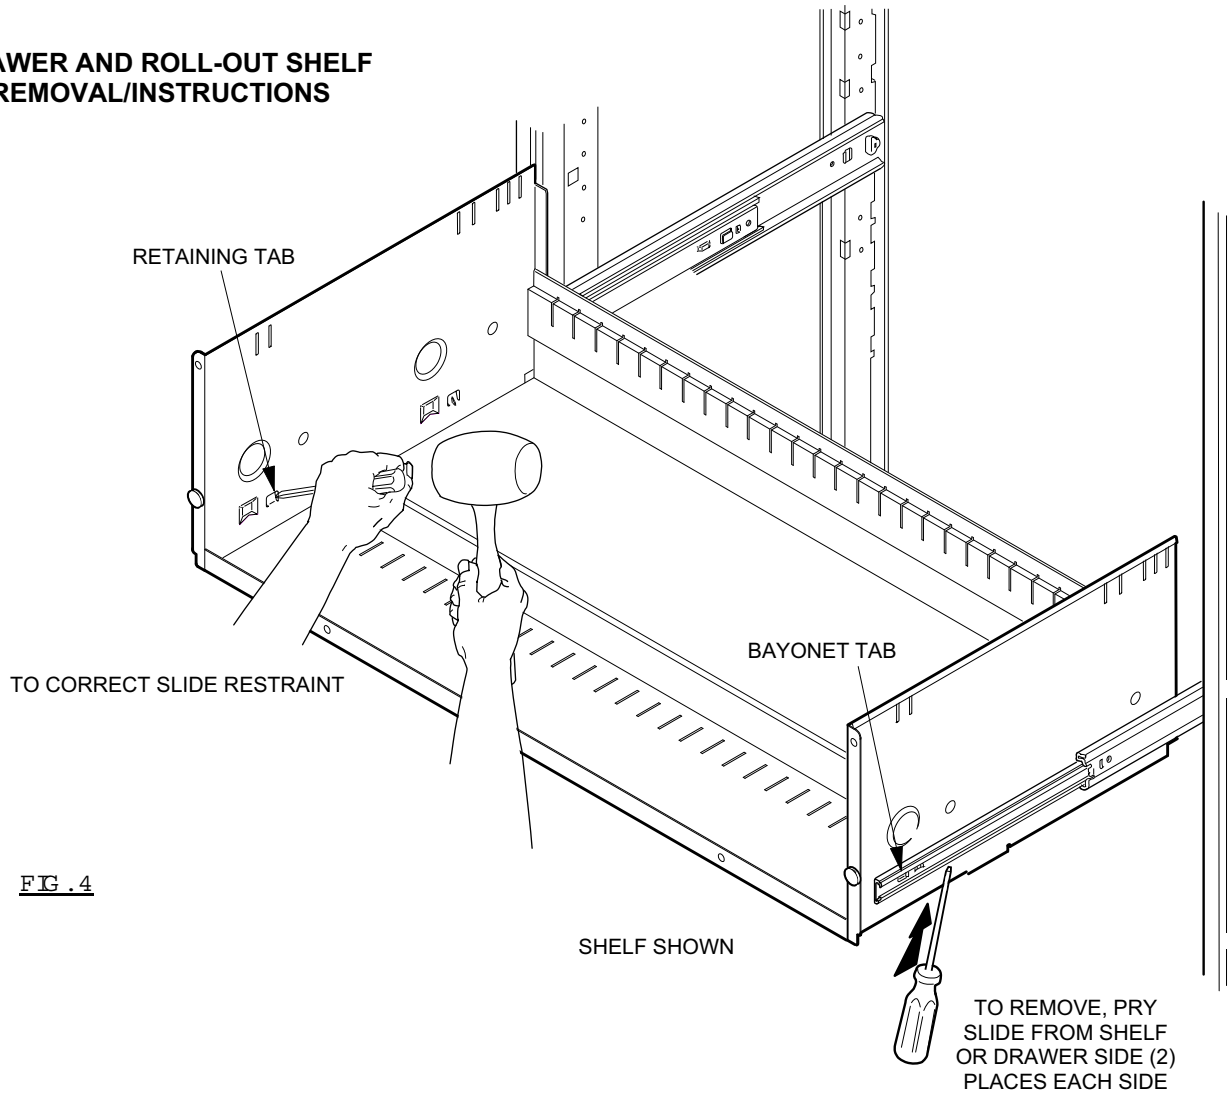

FIG. 4
3. With a flat-blade screwdriver, pry slide bayonet tab away from drawer/shelf side near retaining tabs (Fig. 4).
5. Check drawer/shelf restraint by lifting each corner of drawer/shelf. If drawer/shelf lifts easily from slide, the retaining tabs are not engaged properly. To correct this situation, make sure drawer is seated properly on slides. Locate retaining tabs from inside of drawer/shelf. Tap tabs with a screwdriver and mallet in an outward direction to engage slide with drawer/shelf (Fig. 4).
**CAUTION:** Over-bending a tab may cause it to break (Fig. 4).